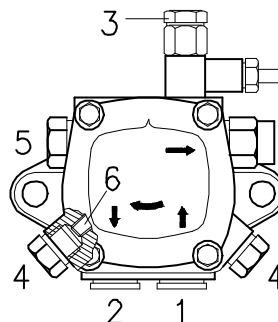

Fig. 18
6.3 Pump (Fig. 18)
- In order for self-priming to take place, one of the screws 3)(Fig. 18) of the pump must be loosened in order to bleed off the air contained in the suction line.